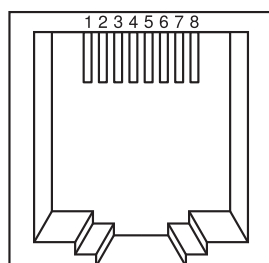

Figure 4.12. Ethernet Port Pinout
4. Place the modular plug over the wire ends, making sure to maintain the pin arrangement shown in Figure 4.12, “Ethernet Port Pinout” and Table 4.2, “Ethernet Port Pinout”.